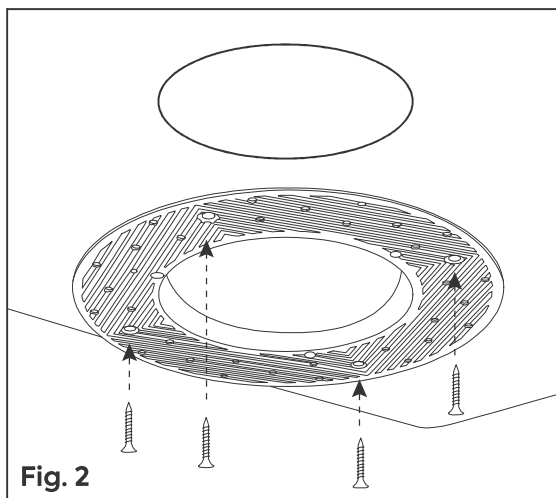

Fig. 2
Step 2: Secure the spackle frame onto the ceiling by using #6 or #8 drywall screws in the four countersunk holes **Fig. 2**.